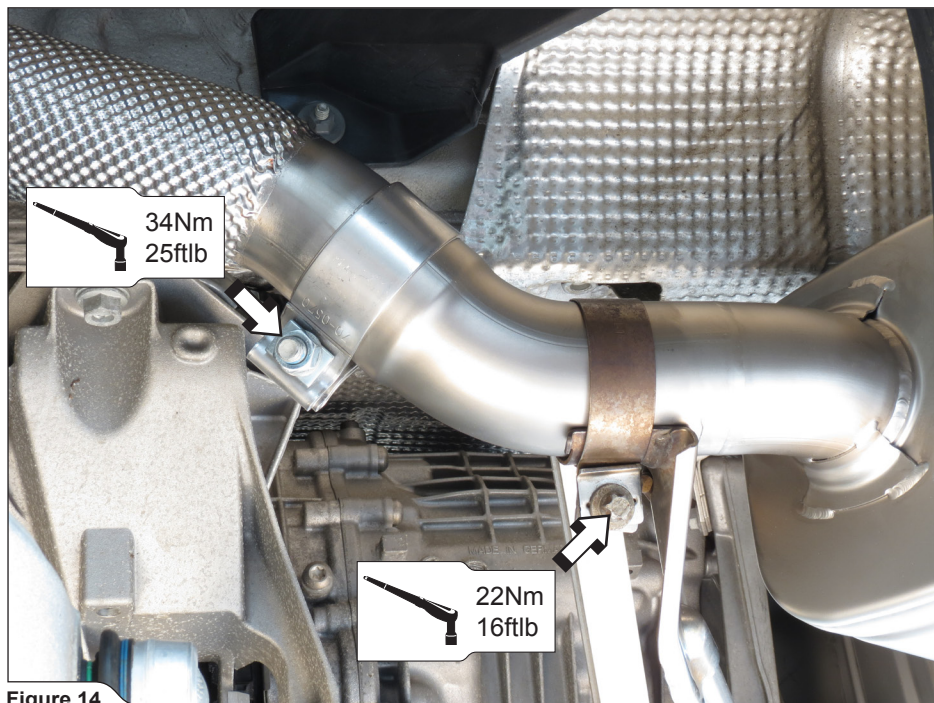

Figure 14
7. Tighten the muffler's brackets clamps and link pipes - muffler joints clamps on both sides of the vehicle (**Figure 14**).